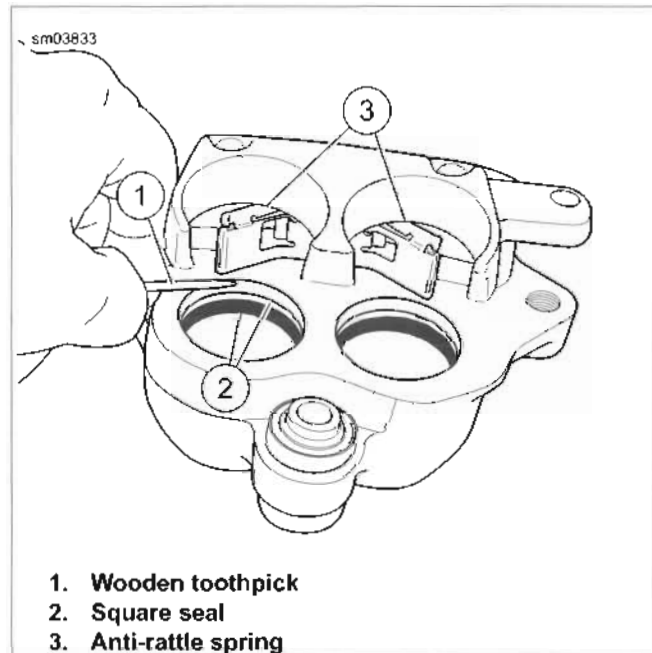

Figure 2-59. Seals and Spring
- See Figure 2-59. Using a wooden toothpick (1), remove two square seals (2) from each caliper bore. Discard all removed parts.
- Pull anti-rattle spring (3) straight out to remove.
2. See Figure 2-59. Install two **new** square seals (2) into each piston bore. Use a wooden toothpick (1) to aid installation if needed.
3. Install anti-rattle spring (3). Verify that it is oriented correctly.